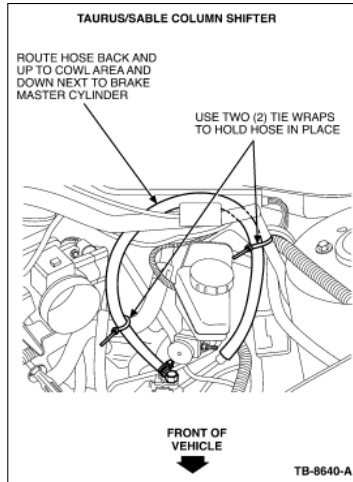

Figure 6 - Article 06-18-13
- Taurus and Sable with column shifter (Figure 6)